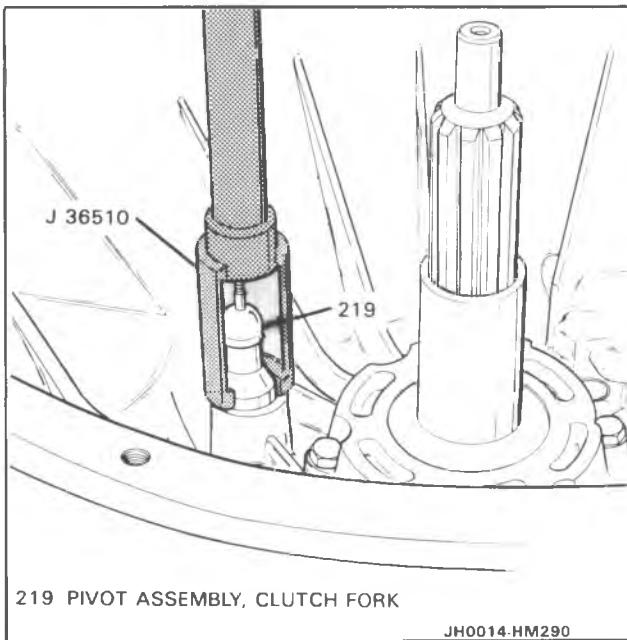
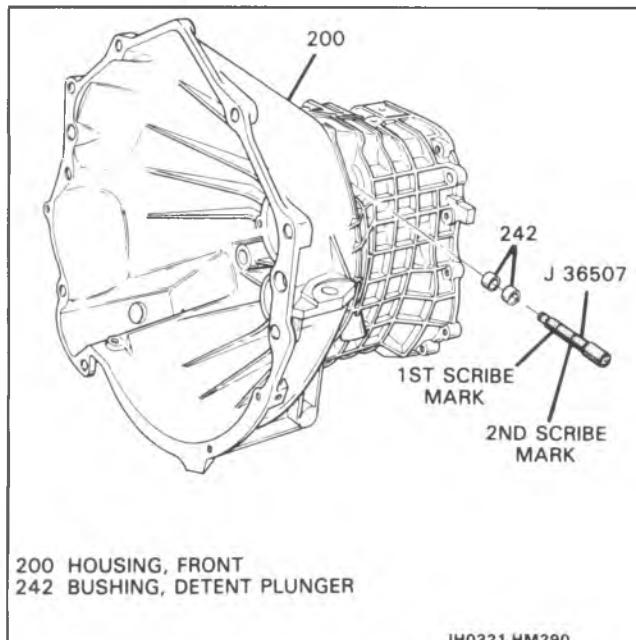

Figure 56 Clutch Fork Pivot Assembly Install
Figure 57 Detent Plunger Bushings Install
3. Clutch fork pivot assembly (219), using J 36510 and J 36190 (Figure 56).
- Grease after installation through lube fitting (220).
4. Two detent plunger bushings (242), using J 36507 (Figure 57).